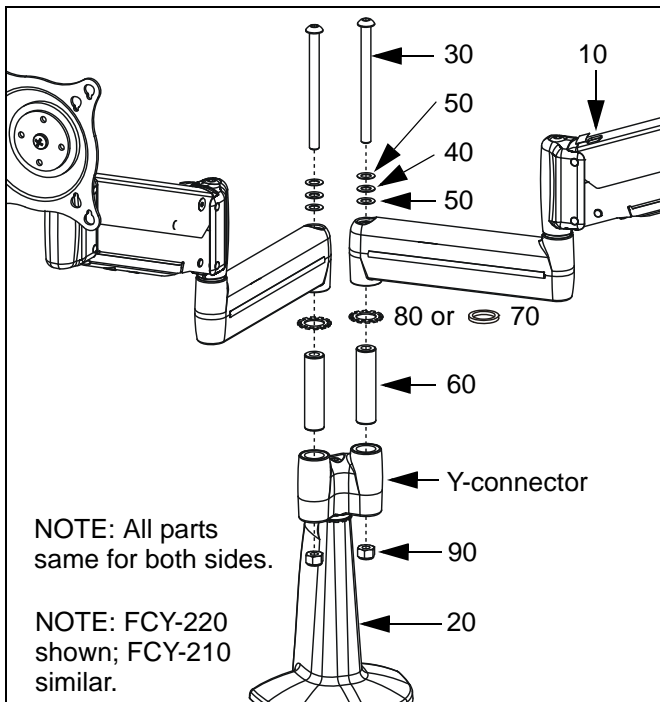
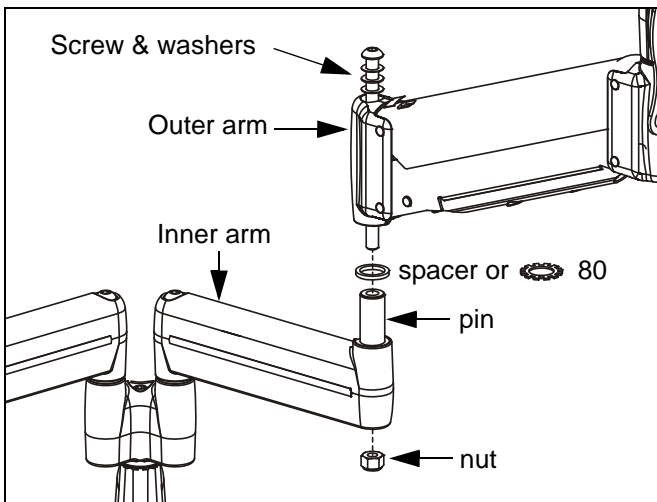

Figure 17: Multi-Dual Arm Assembly
Figure 19: Multi-Dual Arm Modification
2. Insert pin (60) into Y-connector upper bore in mount (20) (See Figure 17).
3. Install spacer (70) or washer (80), as desired, on pin (60) (See Figure 17).
4. Insert arm assembly (10) on pin (60) (See Figure 17).
5. While holding nut (90) in lower bore of Y-connector, insert screw (30) through washer (50), washer (40), washer (50), arm assembly (10), and Y-connector, into nut (90) (See Figure 17). Loosely install screw (30) using 3/16" hex key.
1. Using 3/16" hex key, loosen screw until nut can be removed (See Figure 19). Retain nut. Screw and washers may remain in outer arm.
3. Remove spacer from pin (See Figure 19).
4. Install washer (80) on pin (See Figure 19).
5. Re-install outer arm (with screw and washers) on pin (See Figure 19).
6. Insert and hold nut in lower bore of inner arm (See Figure 19).
7. Tighten screw as required using 3/16" hex key (See Figure 19).
CAUTION: If washer (80) has been used to assemble FCY-210/-220 arms, then forced movement of arms without loosening screw (30) will damage arm and/or Y-connector (See Figure 17)(See Figure 19).